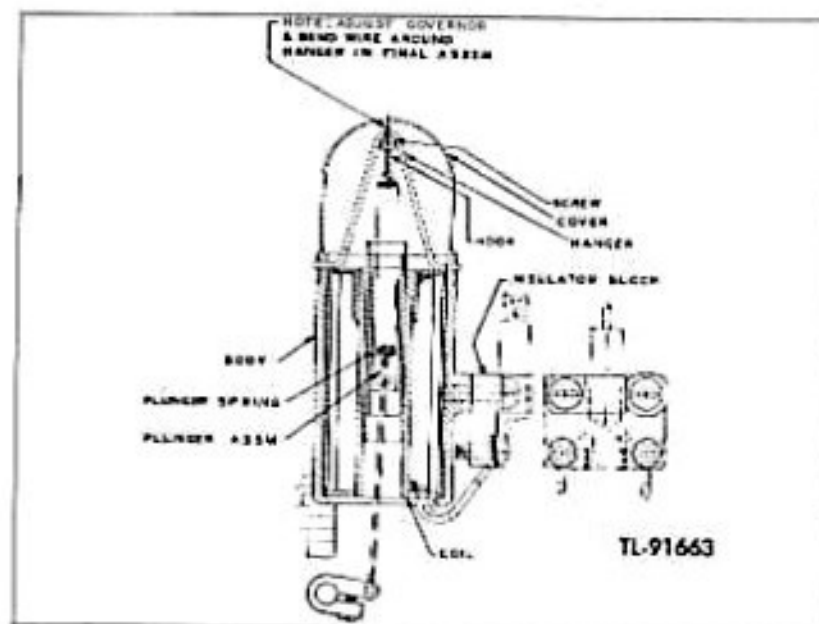

Fig. 14—Electric Governor Assembly
k. Electric governor. (1) No adjustments should be necessary to the governor (fig. 14) unless the plunger return spring (535) is replaced, as it is correctly set for the requirements of the unit at the factory. Replace the rectifier (541) as a unit if it is damaged or becomes inoperative.
(2) To install a new governor spring, proceed as follows: